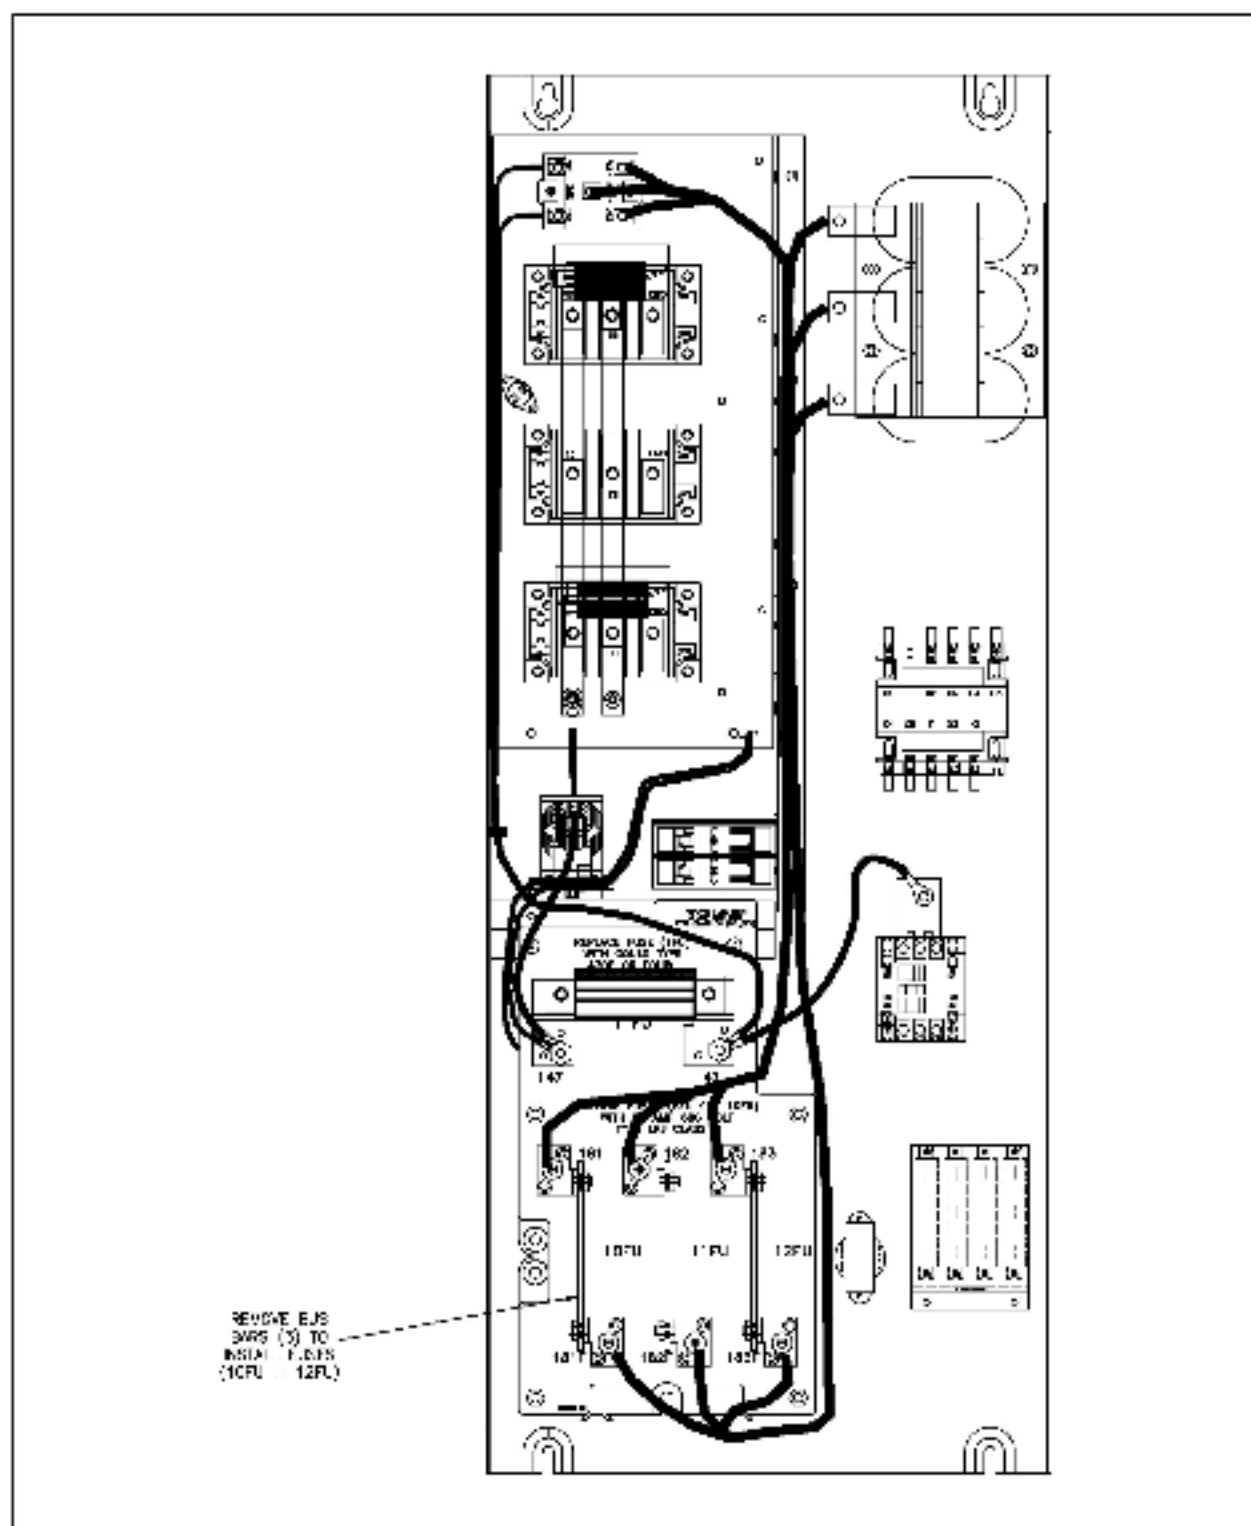

Figure 3. Fuseblock Location for GP2000/VTAC V 25-50 HP Controllers.
Refer to Figure 3.
3. Remove the three (3) fuse block bus bars from the existing fuseblock as shown in Figure 3.